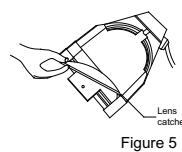

Figure 5
- 7.When the lens drops, remove your finger, allowing the lens to slide forward until it rests on the lens catchers (Figure 5).